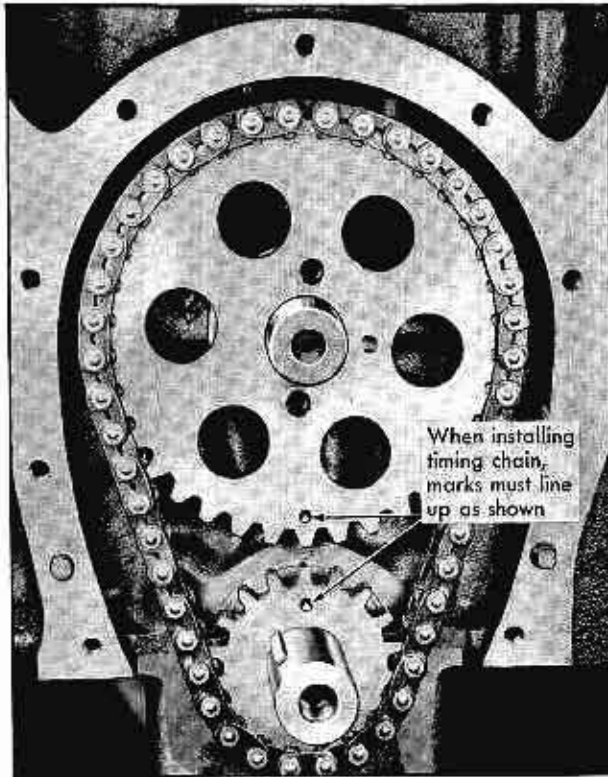

Fig. 10-32 Timing Gear Locating Marks
3. Place chain over crankshaft sprocket and line up timing marks on both sprockets, Fig. 10-32.